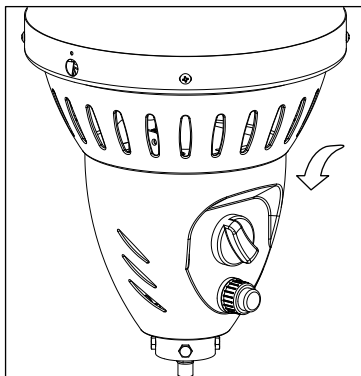

Figure 2
4. Push control knob in and rotate to pilot position (Figure 2).